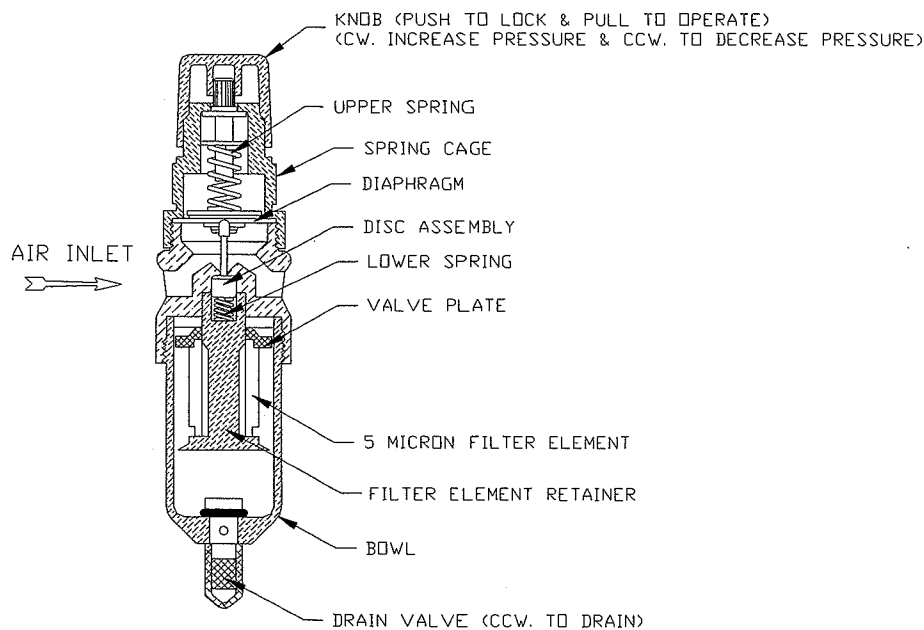

Fig. 14 Filter Regulator.
3. Using a rubber mallet, hammer all the front and rear tube connecting to middle vertical and middle support tube, then connecting the two sides panel assembly connectors (as shown in figure 14).
To unlock adjustment, pull knob up into forward most position. Turn knob clockwise to increase the reduced or regulated pressure and counter-clockwise to lower pressure. With relieving-type regulators, the reduced pressure follows adjustment of the screw, with non-relieving regulators adjustment for lower reduced pressure will not be obtained until the reduced pressure system is "bled-off" or until air flow starts (Refer to Fig. 14).